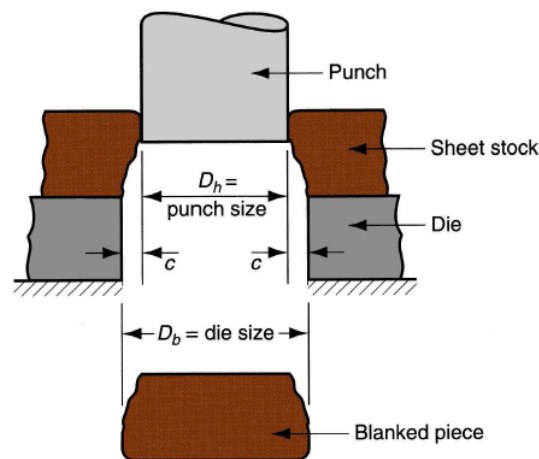

Figure Q4[b]
- [b] A blanking operation is to be performed on 2 mm thick cold rolled steel to produce circular part with diameter of 75 mm as shown in Figure Q4[b]. Determine:**